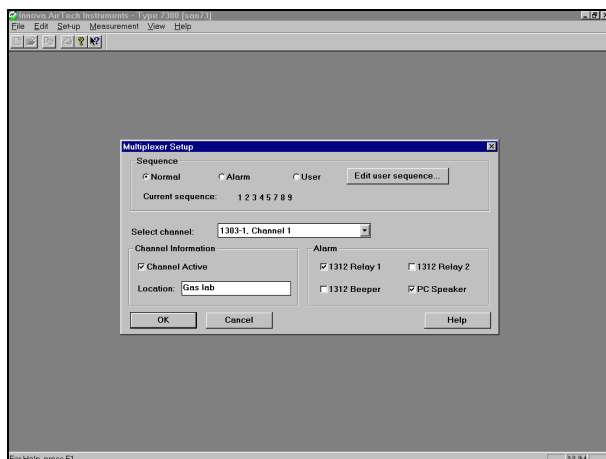

Fig. 4.7 The Multiplexer Set-up dialogue
1. Pull down the **Set-up** menu. Click on **Multiplexer**. The Multiplexer dialogue will be displayed, Fig.4.7.